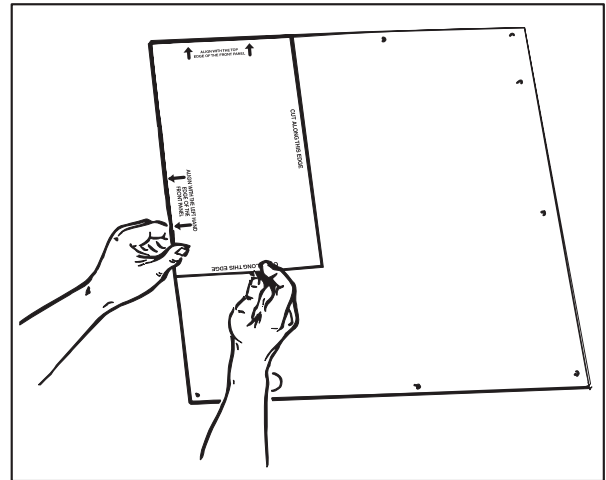

Figure 1
2. Align the template to the upper left corner of the front panel. See Figure 1.